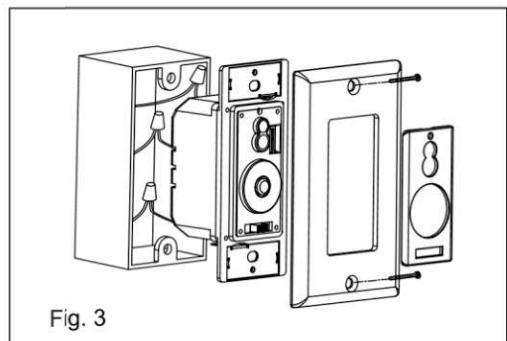

Fig. 3
**Step 3.** Carefully tuck the wire connections inside the outlet box. Use the screws provided to secure the wall transmitter and wall plate to the outlet box. (Fig. 3)